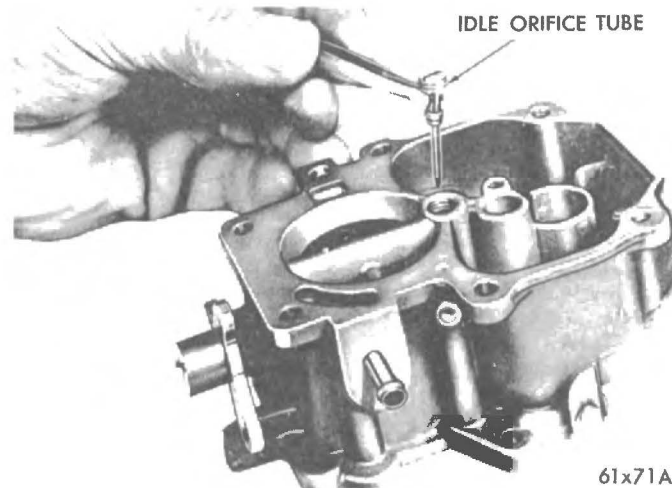

Fig. 6 - Removing or Installing Idle Orifice Tube.
(13) Unscrew and remove idle orifice tube (Fig. 6).
(5) Install the idle orifice tube, (refer to Fig. 6). Tighten securely.